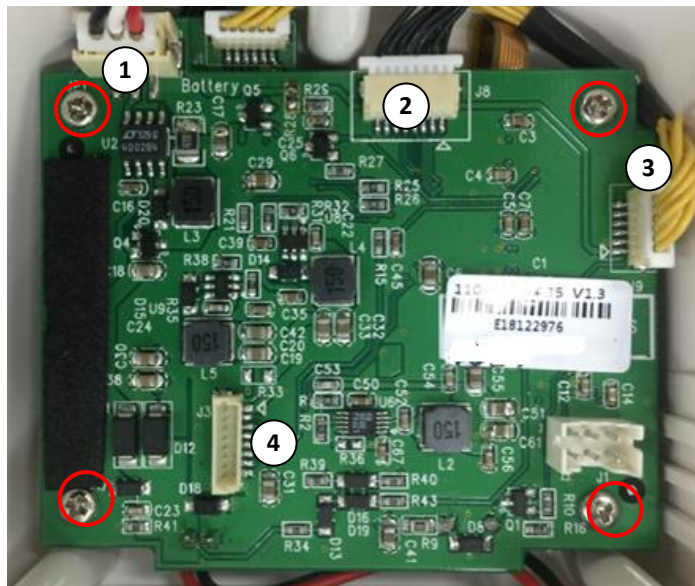

Fig: 7
3. Remove the four screws from the control PCBA. (Fig: 7)
4. Remove the two LCD display PCBA cables from the control PCBA. (Fig: 7)
4. Remove the four connectors from the control PCBA. (Fig: 7)
2. Remove the battery set connector from the control PCBA. (Fig: 7)